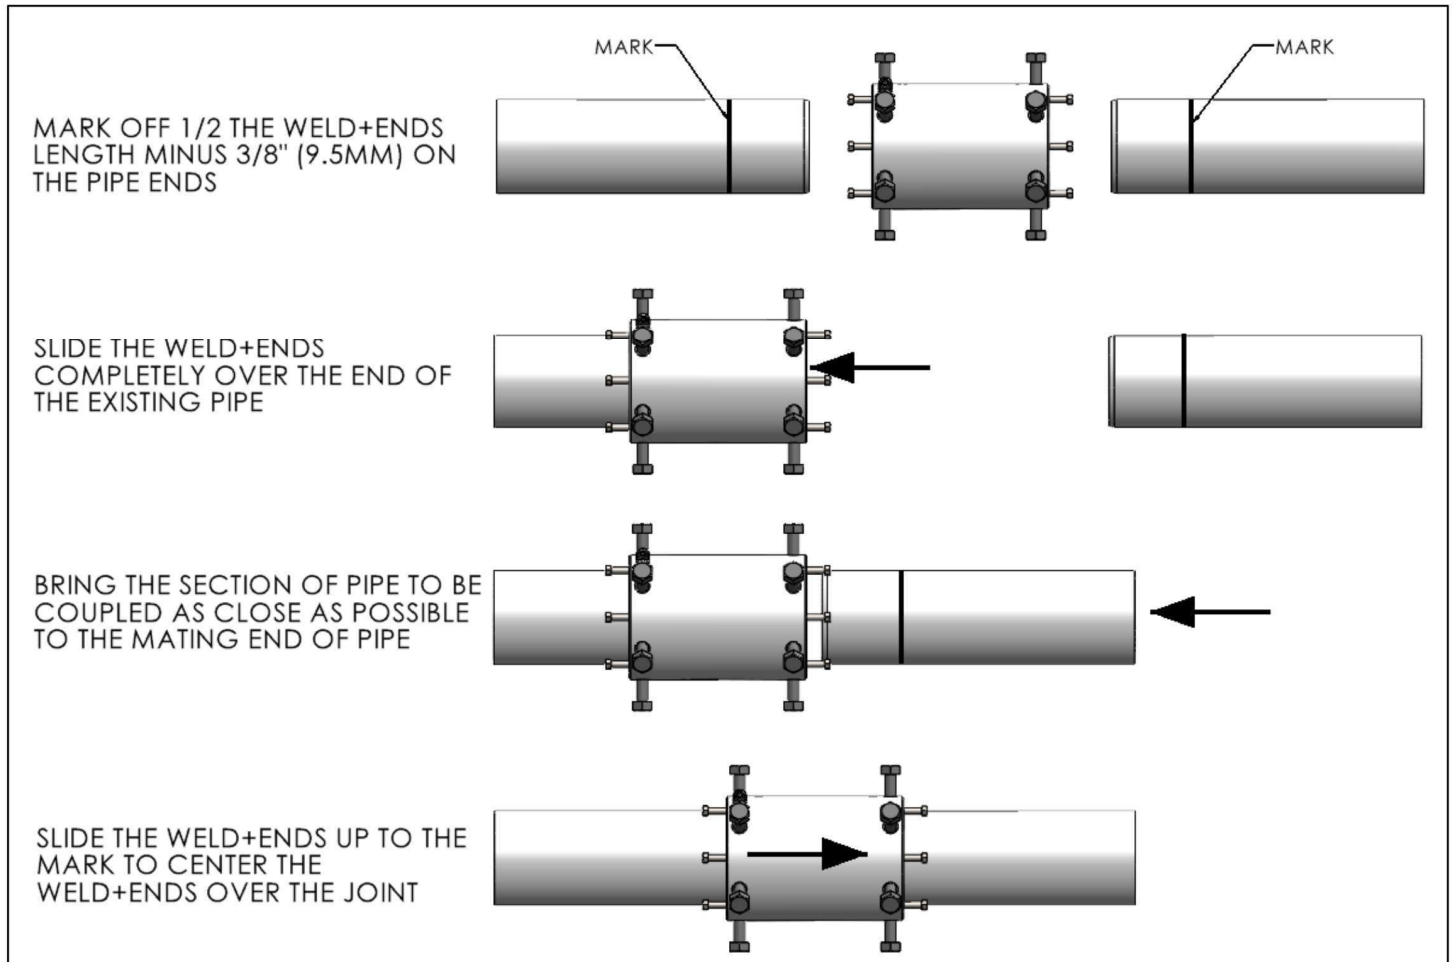

Figure 2
3. Place a mark on both ends of the pipe one-half the PLIDCO Weld+Ends minus $3/8"$ (9.5mm). (See Figure 2)